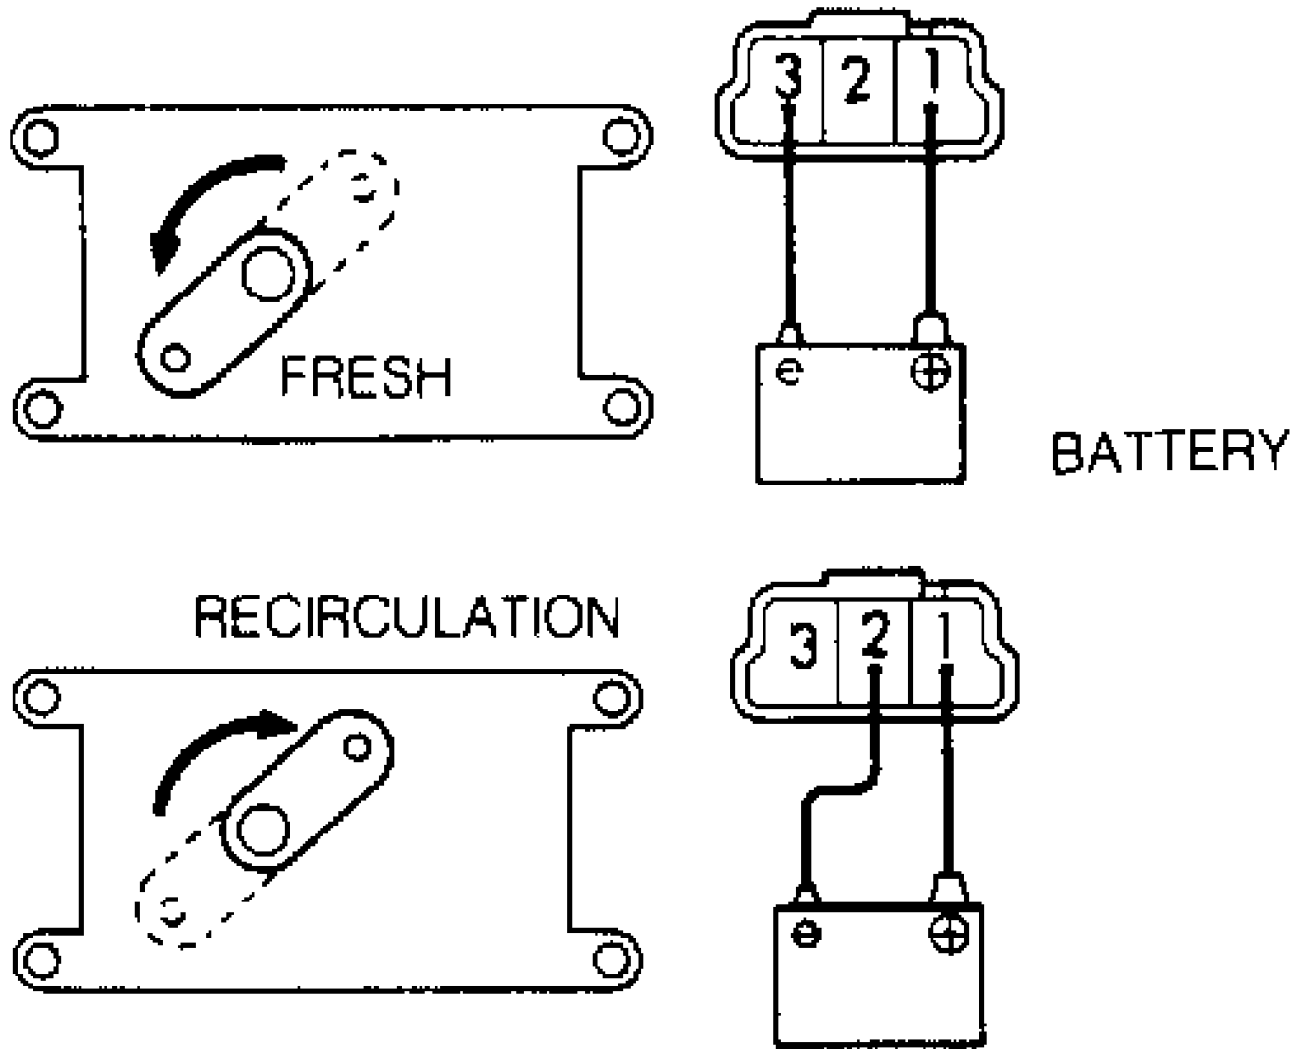

Fig. 12: Testing Air Inlet Control Servomotor
1) Disconnect servomotor connector. See Fig. 1. Apply battery voltage to terminal No. 1, and ground terminal No. 3. See Fig. 12. Ensure arm rotates smoothly to fresh air side.
2) Apply battery voltage to terminal No. 1, and ground terminal No. 2. See Fig. 12. Ensure arm rotates smoothly to recirculated air side. If operation is not as specified, replace servomotor.